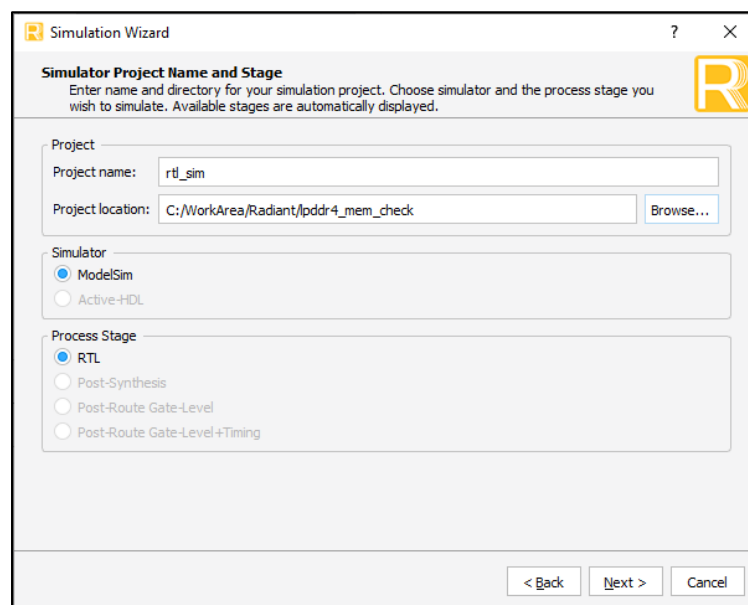

Figure 3.4. Simulation Wizard
2. Click the  button located on the **Toolbar** to initiate the **Simulation Wizard** shown in Figure 3.4.